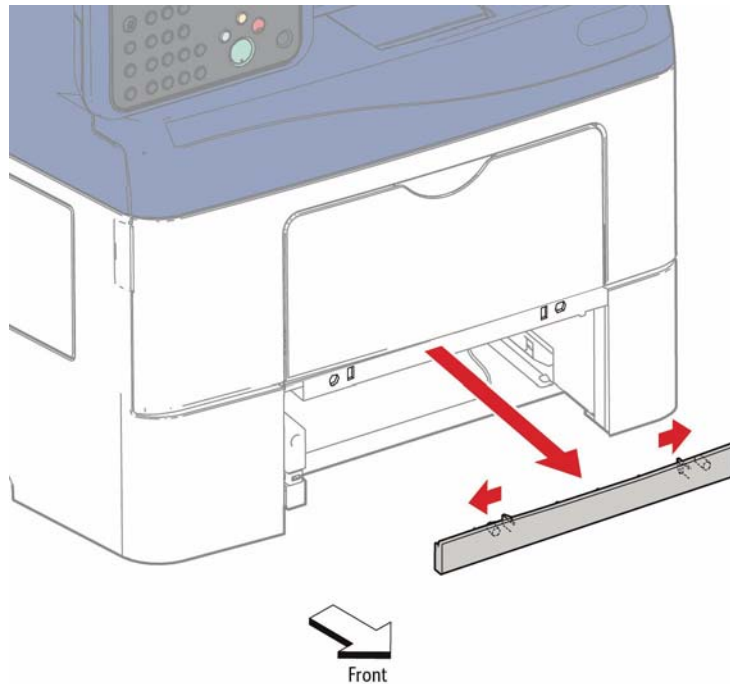

Figure 1 Remove the Bypass Tray Lower Cover
2. Refer to Figure 1 to locate and release the two hooks holding the Bypass Tray Lower Cover and remove the cover. If the two hooks are difficult to release, remove the Bypass Tray Assembly first (REP 13.3.1), then remove the lower cover.